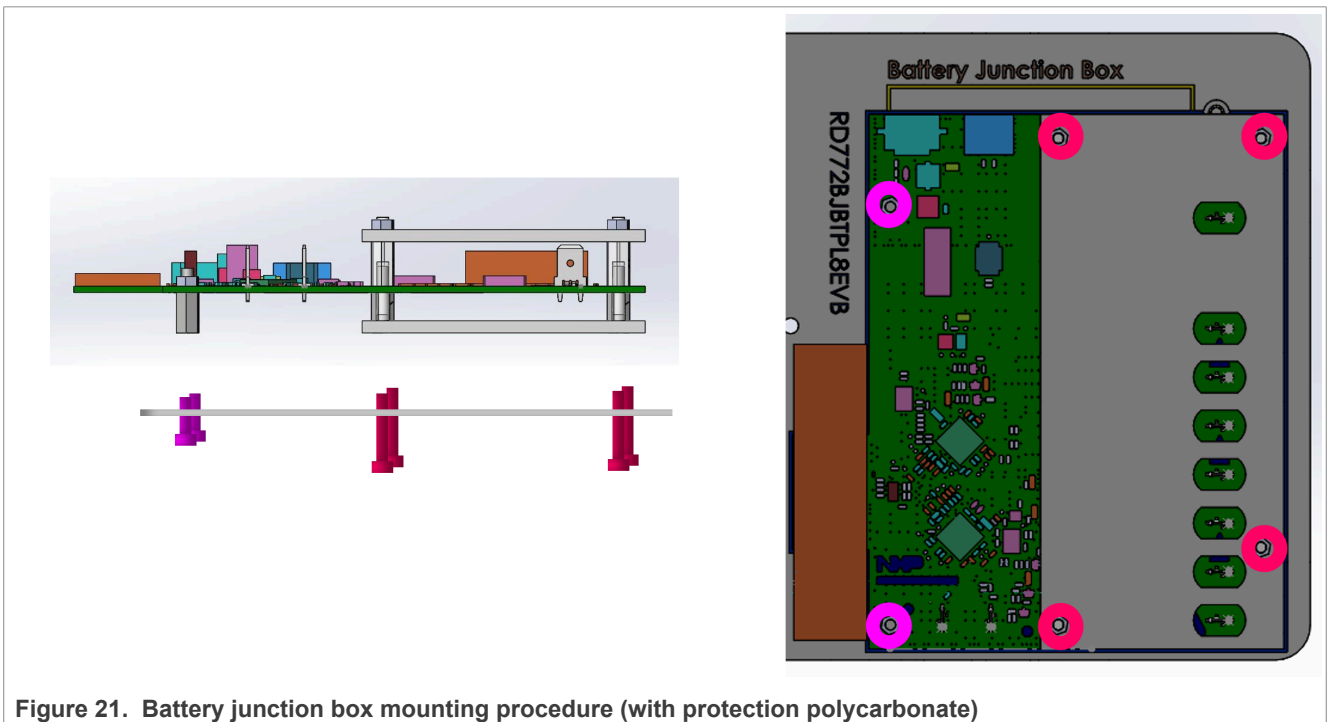

Figure 21. Battery junction box mounting procedure (with protection polycarbonate)
1. Mount the BJB to the top plate using four long screws (280-78008) and two short screws (280-76979) by replacing the bottom screws of the BJB protection polycarbonate and using the two standoffs provided in the BJB kit according to Figure 21.